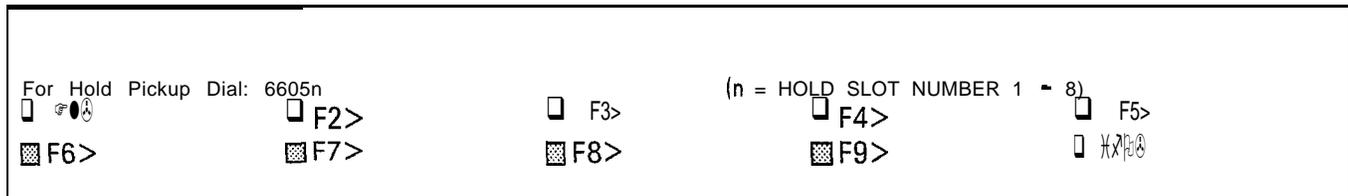

Figure 3-25 Station Hold Slot Access
3.31 The Attendant can access paging equipment using the PAGE fixed key on the Attendant Console. By using this key the Attendant can access a default paging zone(s) which has been programmed in Customer Data Entry (CDE). To access a given paging zone or all paging zones the Attendant must dial the appropriate access code. If the Attendant has a call on hold for an extension user, the hold pickup access code must be given to enable the extension user to pick up the call. The hold slot access code has three fields as shown in this example: the feature access code (66), the Attendant Console number (05) and the hold slot number (1 to 8); refer to Figure 3-25.